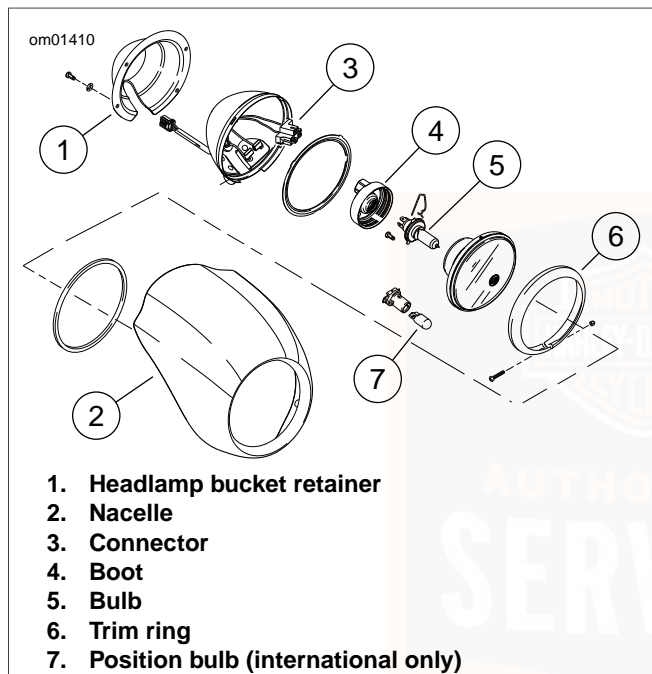

Figure 46. Headlamp Assembly: VRSCDX
- See Figure 46. Remove screws with washers from headlamp bucket retainer. Remove retainer and nacelle from headlamp.
3. See Figure 46. Install rubber boot at back of housing.